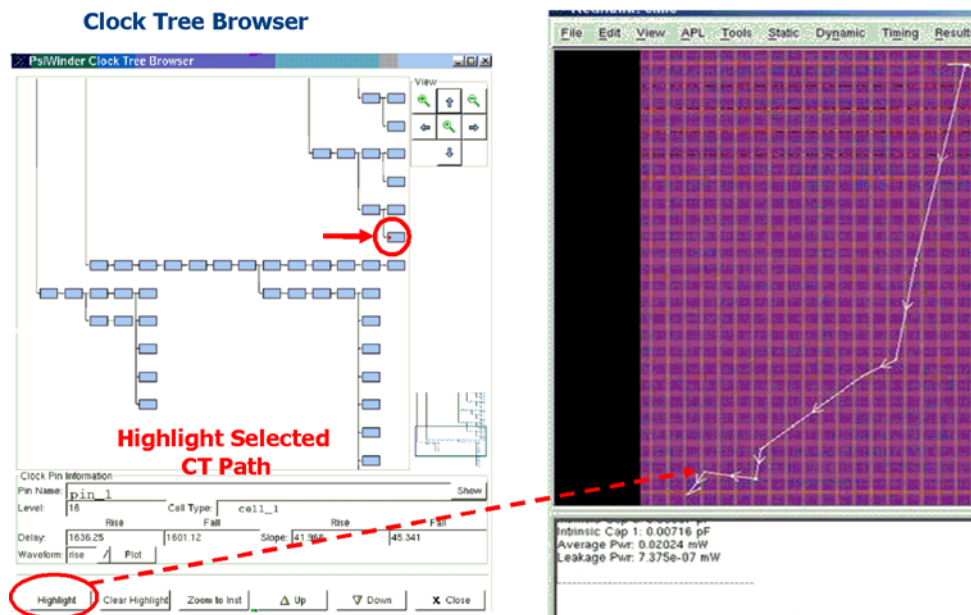

Figure 8-11 Highlighted clock network
- **Highlight button:** highlights the entire selected clock path from root to the selected pins in the GUI design layout window. If multiple pins are selected, the common path will be highlighted in yellow. See Figure 8-11.